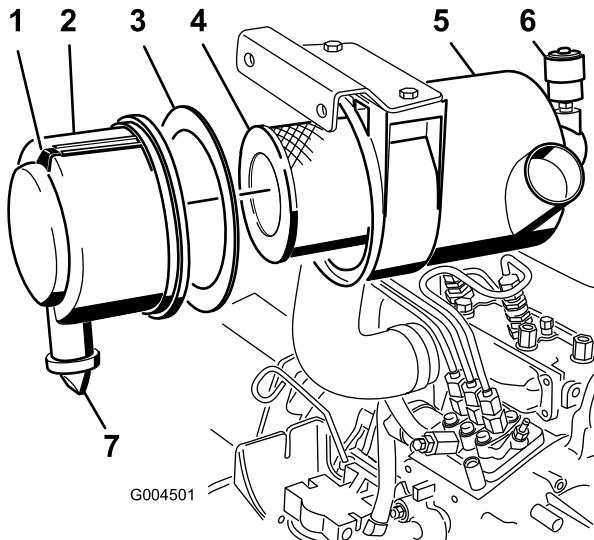

Figure 64
2. Service the air cleaner filter when the air cleaner indicator (Figure 64) shows red or every 400 hours (more frequently in extremely dusty or dirty conditions). Do not over service the air filter.
1. Pull the latch outward and rotate the air-cleaner cover counter-clockwise (Figure 64).
2. Remove the cover from the air-cleaner body (Figure 64).
- Remove and replace the primary filter (Figure 64).
- Ensure that the foam gasket is in place in the cover and that it is not torn or damaged (Figure 64).
- Remove the rubber outlet valve from the cover (Figure 64).
- Reset the indicator (Figure 64) if showing red.